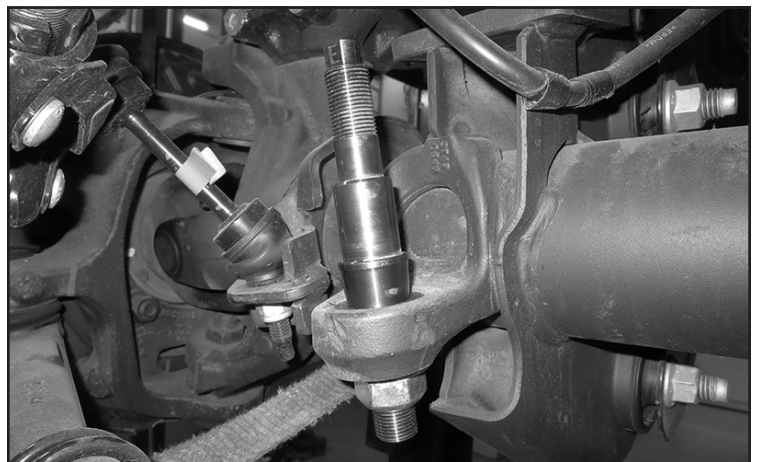

FIGURE 4 - STEP 10
10. Install FT94510 (Pin) into the factory track bar axle mount location using the supplied 3/4" washer & nut. Torque to 297 ft-lbs. **SEE FIGURE 4**